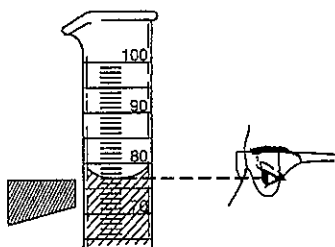

Figure 9 Reading volume in a graduated cylinder.
3. Sketch **Figure 9** and label the ***meniscus***. What is the volume measurement in this diagram?
A volume measurement is always read at the bottom of the meniscus, with your eye at the same level as the liquid surface. To make the meniscus more visible, you can place your finger or a dark piece of paper behind and just below the meniscus while making the reading (Figure 9).